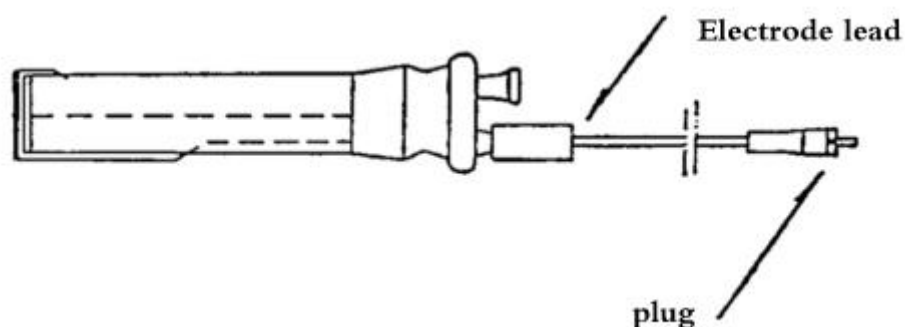

Figure 2
- 1) before use, put the glass pool all open titration, titration pool, drying tube, sealing plug water cleaning. After cleaning the oven at about 80 C, then the natural cooling. Pay attention to the cathode chamber, a measuring electrode can not use water to clean and available acetone, methanol and other organic solvents for cleaning, after cleaning with a hair dryer. Cleaning should pay attention, do not clean to the electrode lead (see Figure 2), otherwise it will cause errors in the measurement of the sample process.